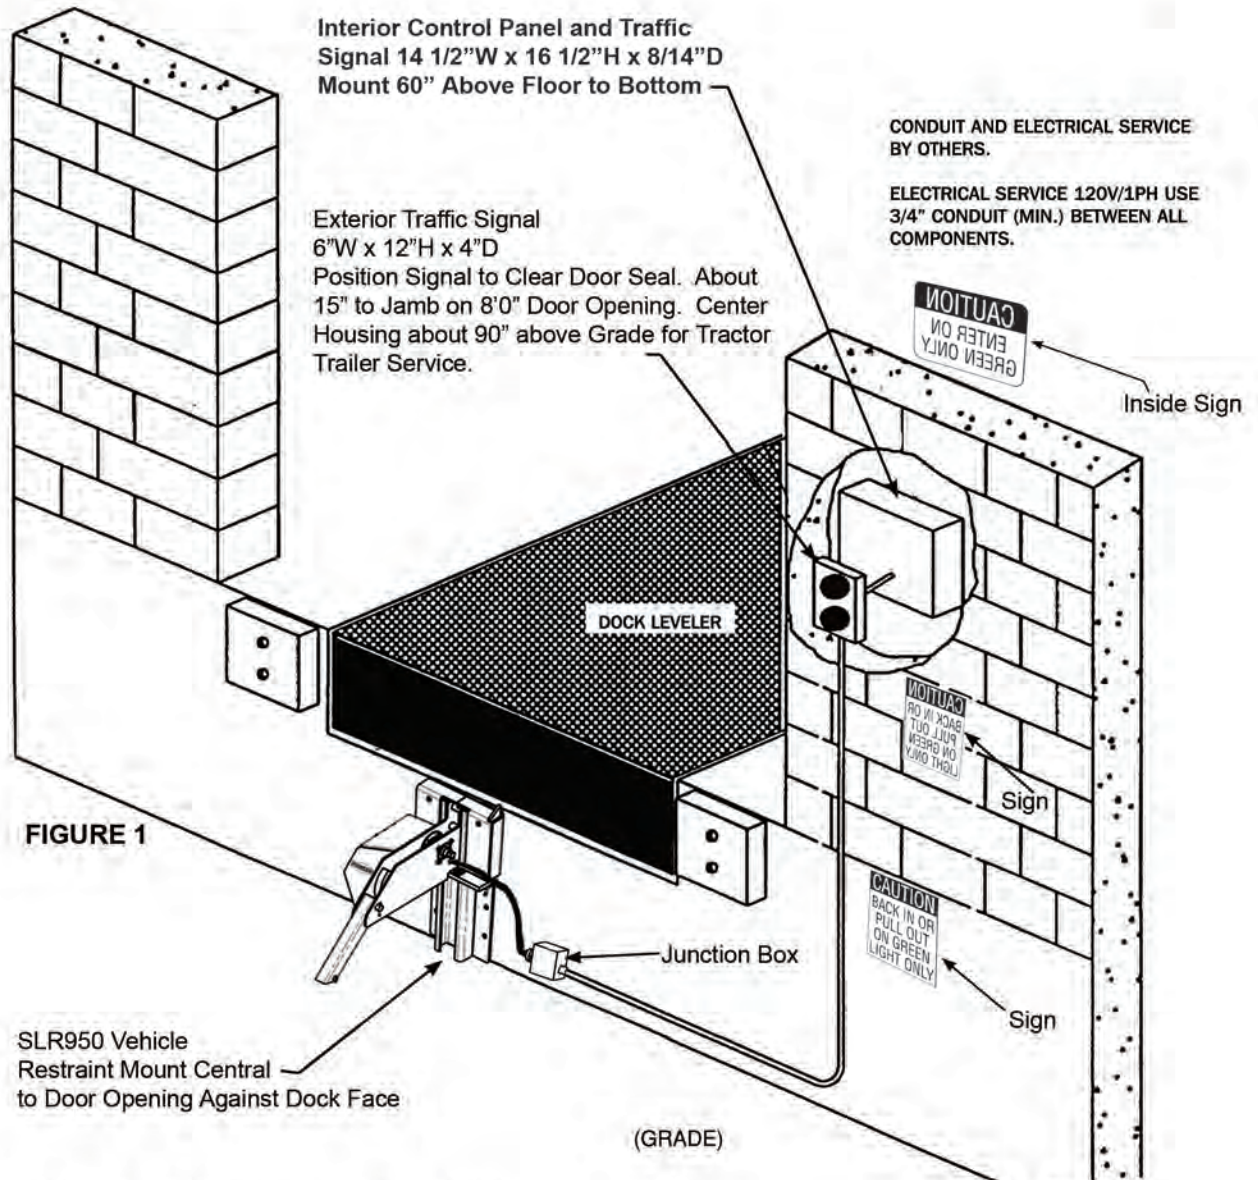

FIGURE 1
5. Install roller track plate onto dock face at specified location by welding to an embedded steel plate or by using the fifteen (15) concrete anchor holes in conjunction with welding to pit steel and a leveler frame. Refer to Figure 1 (Page 1).